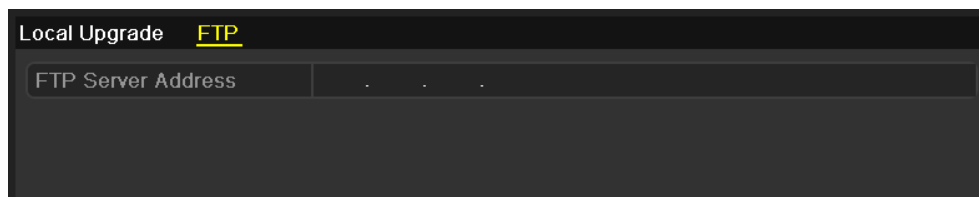

Figure 14. 14 FTP Upgrade Interface
2. Click the **FTP** tab to enter the local upgrade interface, as shown in Figure 14. 14.